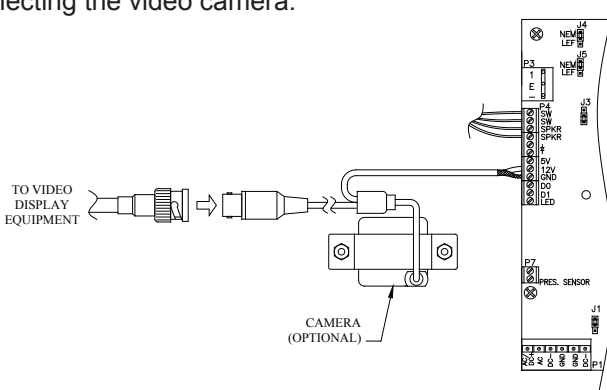

Figure 17
- Pinhole camera.** Connect the video signal cable using RG59U cable and BNC type connectors. This will give the best possible picture from the keypad camera. Pinhole camera power is supplied by the keypad circuit board. In some situations, it may be necessary to install a video amplifier or a video isolator depending on how the video system is installed. See Figure 17 for information on connecting the video camera.